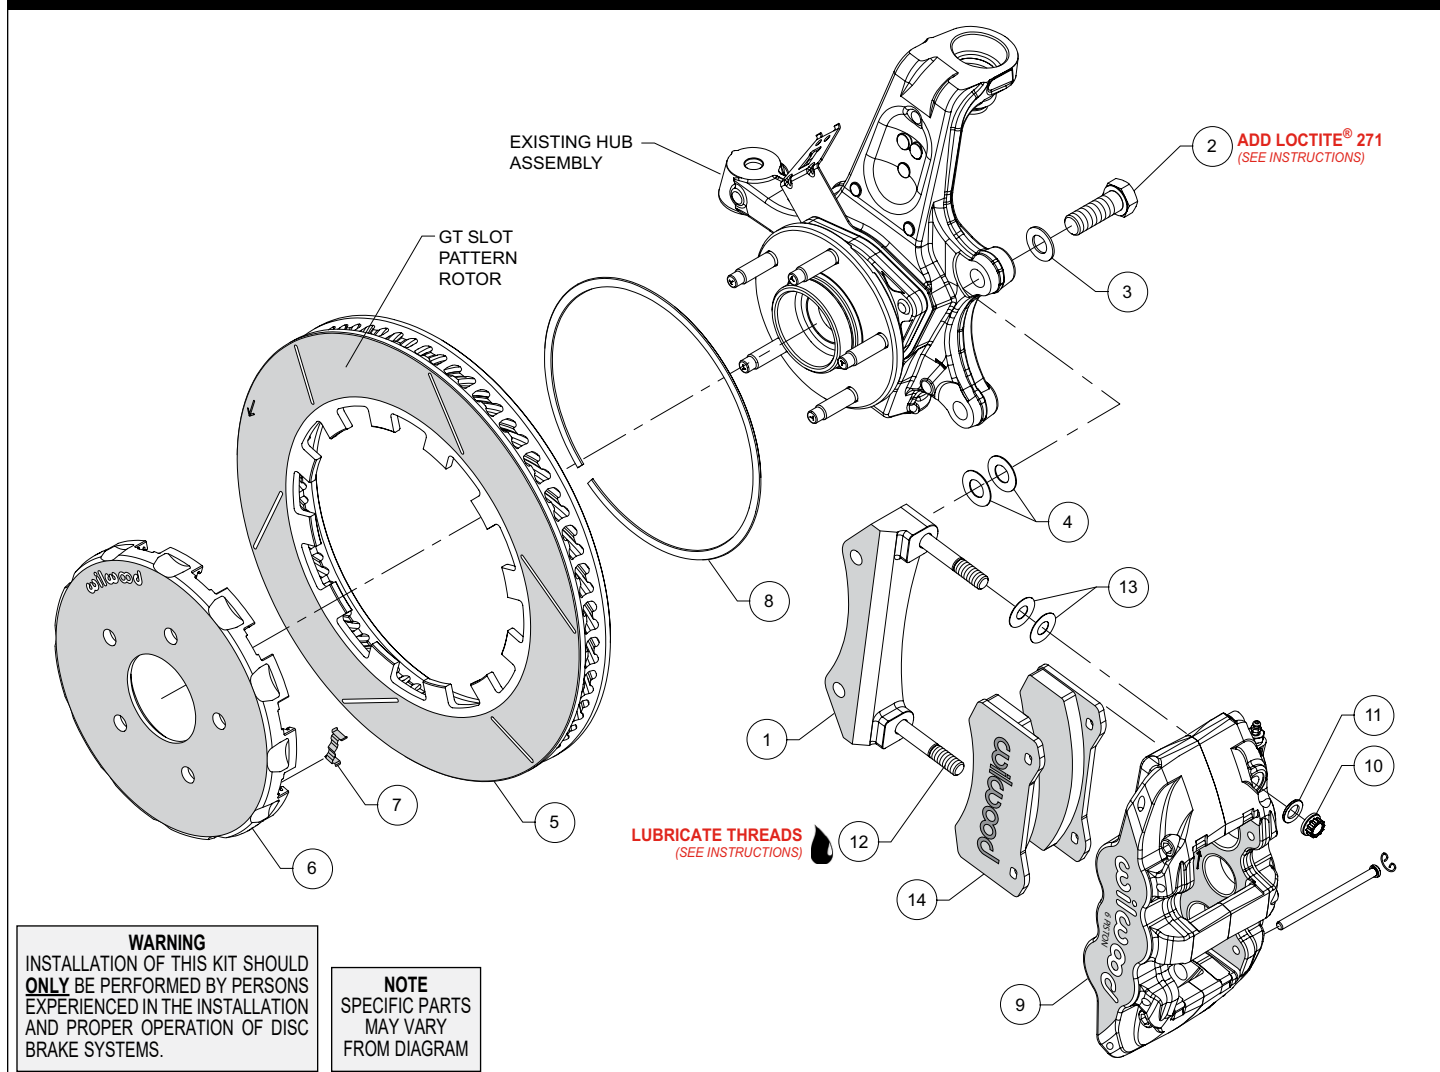

Figure 1. Typical Installation Configuration
NOTE: Numbers in parenthesis refer to the parts list and Figure 1 on the preceding pages.
- The caliper mount bracket (1) should initially be installed with clean, dry threads on the mounting bolts. Orient the bracket, as shown in Figure 1 and Photo 1, and install using bolts (2) and washers (3). Initially place two .029" thick shims (4) on each bolt between the bracket and upright, Figure 1. Temporarily tighten the mounting bolts. **NOTE:** The bracket must fit squarely against the mount bosses on the upright. Inspect for interference from casting irregularities, machining ridges, burrs, etc. Later, after the caliper alignment has been checked, the mount bolts will be secured using red Loctite® 271.
- Insert the dynamic mount wear clips (7) into the slots in the hat (6), Photo 2. Orient the rotor (5) as shown in Figure 1 and Photo 3, with the flush side of mount lugs facing the hat. Secure the rotor to the hat using the snap ring (8) by simultaneously pushing down on the rotor and installing the ring into the groove in the hat, as shown in Photo 4. Carefully inspect snap ring to ensure complete engagement in the groove.
- NOTE:** This kit contains distinct right and left hand calipers that must be mounted in a specific direction, as described below. Lubricate the caliper mounting studs (12) with lightweight oil. Initially place two .016" thick shims (13) on each stud between the caliper and the bracket, as shown in Figure 1 and Photo 5. Mount the caliper (9) onto the bracket (1) using lock nuts (10) and washers (11), Figure 1. Temporarily tighten the lock nuts. Ensure that the caliper is mounted so the largest pistons are at the rotor exit end of the caliper, in relation to the direction of the rotor. View the rotor through the top opening of the caliper. The rotor should be centered in the caliper, Photo 6. If not, adjust by adding or subtracting shims (4) between the bracket and the upright. Always use the same amount of shims on each of the two mounting bolts. Once the caliper alignment is correct, remove the bracket mounting bolts (2) one at a time, apply red Loctite® 271 to the threads, and torque to 77 ft-lbs.
- Unmount the caliper from the mounting bracket by removing lock nuts (10) and washers (11). Remove the two pad retaining pins from the caliper (9) by carefully popping out the pin retaining clips and sliding out the pins. Insert the brake pads (14) into the caliper from the bottom, Figure 1 and Photo 7. With the friction material facing the rotor, secure the brake pads in place with the pad retaining pins and clips, Photo 8. Reinstall the caliper onto the caliper mounting bracket and temporarily tighten the lock nuts (10). Check that the top of the brake pad is flush with the outside diameter of the rotor, Photo 9. If not, adjust by adding or subtracting shims (13) between the caliper and the bracket. After the caliper pad height is set, torque the caliper lock nuts (10) to 47 ft-lb.